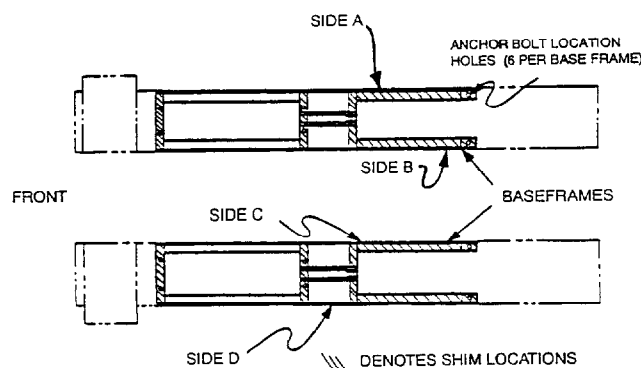

Figure 9: Leveling Procedure Example
1. The highest point on the floor, noted from Section 4.1 step 6 is the point from which the base frame will be leveled from. Raise the lift to full height and check using a four (4) foot level across the base frame should again verify that this is the highest point.
2. Starting at the corner closest to the highest point, check along the length of the base frame edge with the four foot level and shim as required. **NOTE THE FIVE CRITICAL POSITIONS THAT SHIMS MUST BE PLACED ON EACH BASE FRAME OF EACH MAIN FRAME ASSEMBLY.** Refer to **Figure 9**.
LEVELING EXAMPLE: FIGURE 9